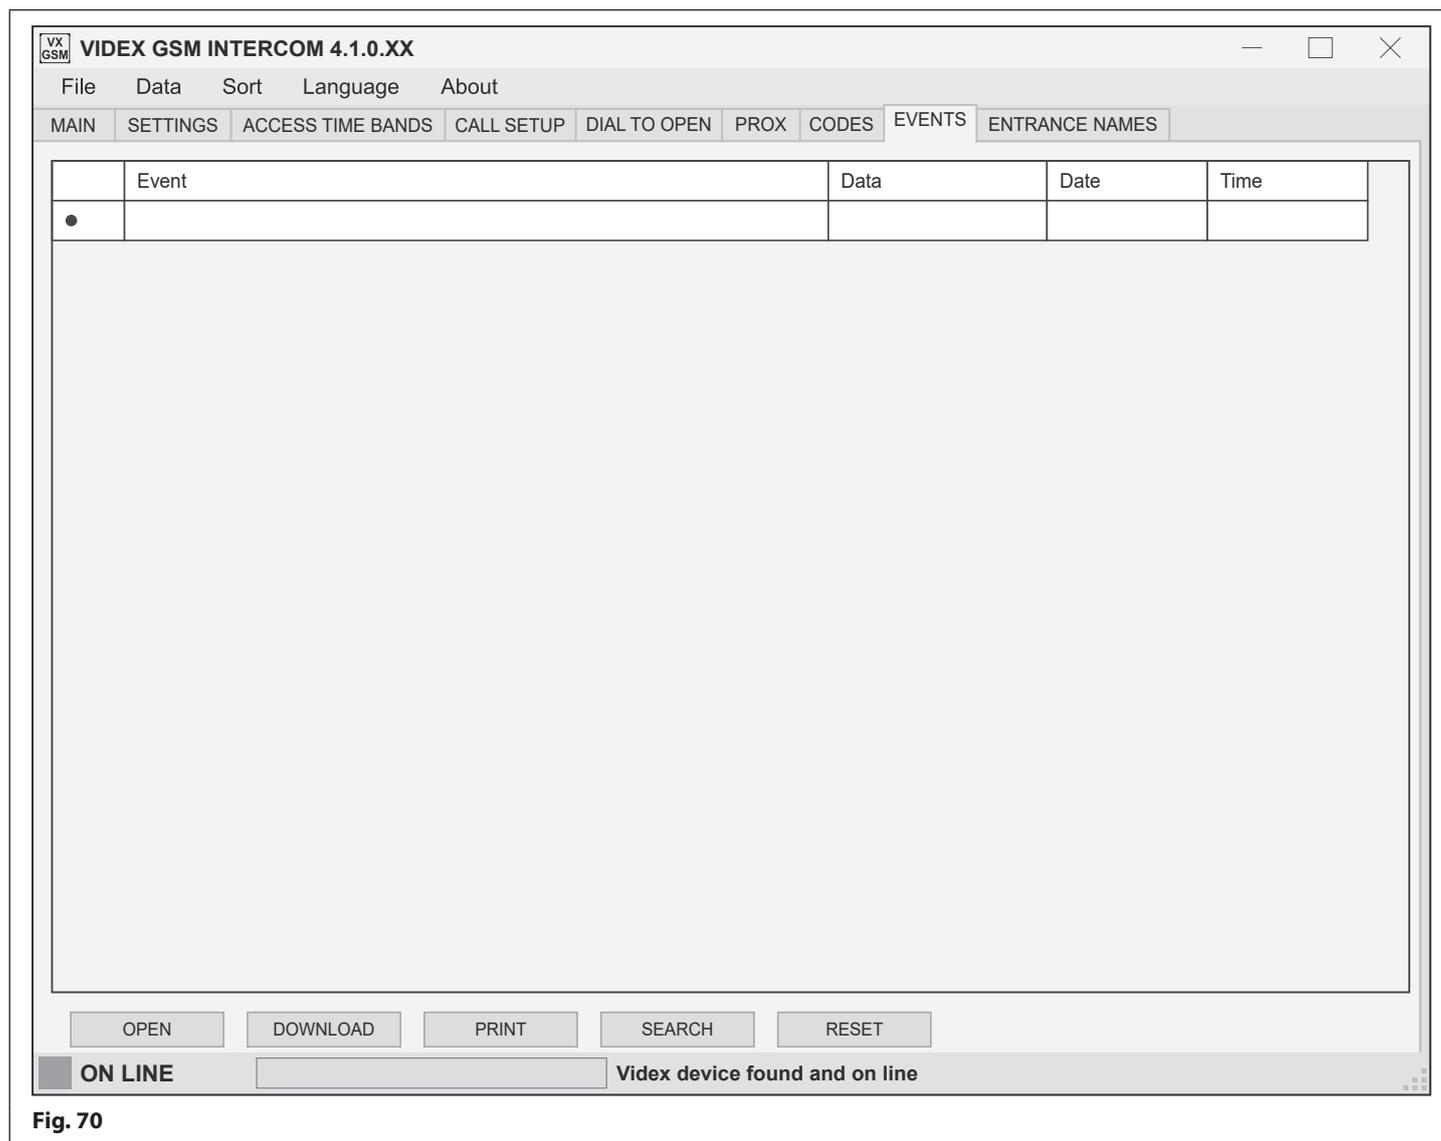

Fig. 70
The events window layout is the same for each of the GSM systems, refer to **Fig.70**.
- First click on the 'OPEN' button at the bottom left of the events screen (see **Fig.70**).
- First click on the 'DOWNLOAD' button at the bottom of the events screen (see **Fig.70**).